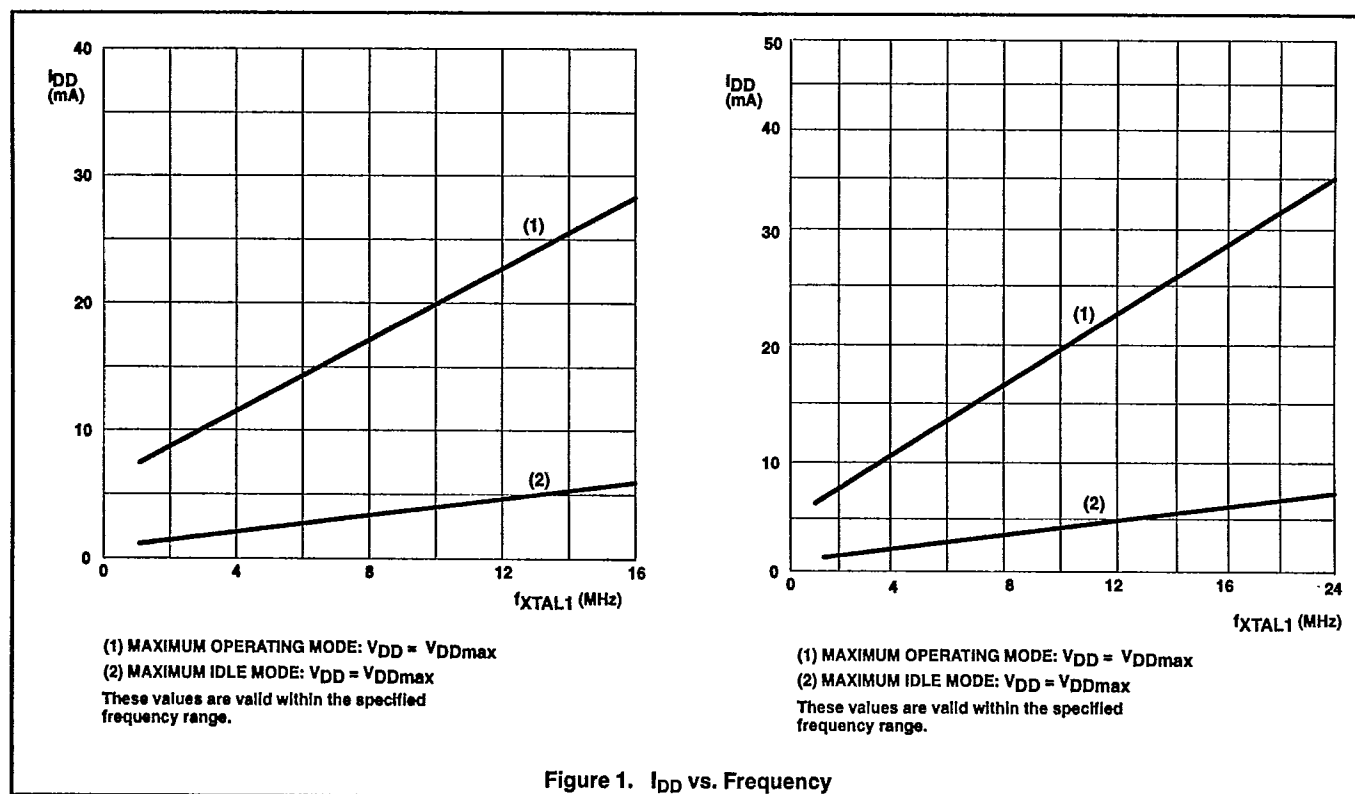

Figure 1. I_{DD} vs. Frequency
- $I_{DD\text{MAX}}$ for other frequencies can be derived from Figure 1, where FREQ is the external oscillator frequency in MHz. $I_{DD\text{MAX}}$ is given in mA.